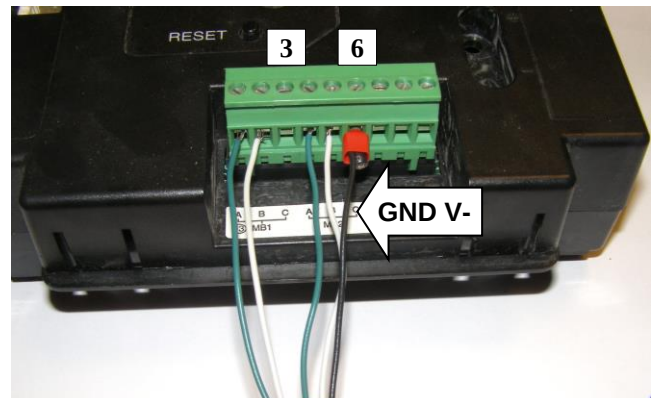

Figure 5: Exchange Controllers
- 5) Install modified black wire at position 6 (Figure 5).